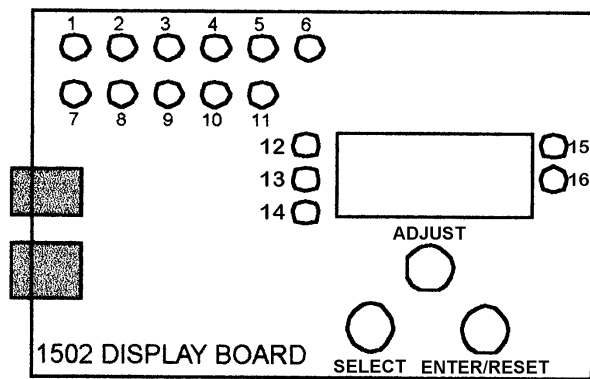

Figure 1. Dia-Scan II Display Board.
When power is applied to the WHC1502 System, the Display Board will initially run through a self-diagnostic test, and then display the Outlet temperature. To display a specific setting or temperature, press the SELECT push-button until the appropriate LED is illuminated (see figure 1). After 5 seconds, the Display Board will automatically revert to displaying the Outlet temperature. Pressing the ENTER/RESET push-button will hold the display in the indicated mode until the SELECT push-button is pressed.
1. Press the SELECT push-button on the display board until both the Set-Pt LED (LED 15, see figure 1) and Outlet Water Temperature LED (LED 13, see figure 1) are illuminated.
1. Press the SELECT push-button on the display board until the Set-Pt differential LED (LED 16, see figure 1) is illuminated.
1. Press the SELECT push-button on the display board until both the Set-Pt LED (LED 15, see figure 1) and Inlet Water Temperature LED (LED 12, see figure 1) are illuminated.